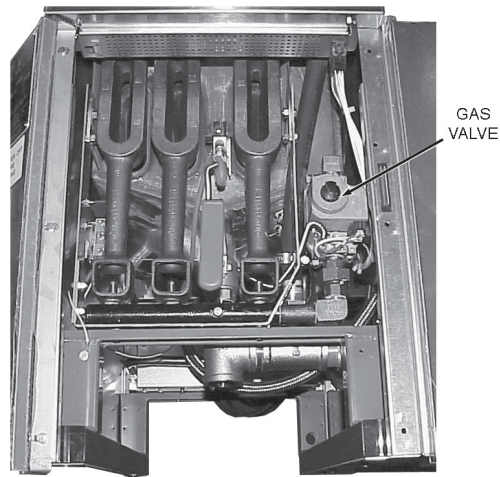

Fig. 9
GAS VALVE (Fig. 9)
3. Turn the gas valve (located inside the cabinet door - see Fig. 9) to the ON position.